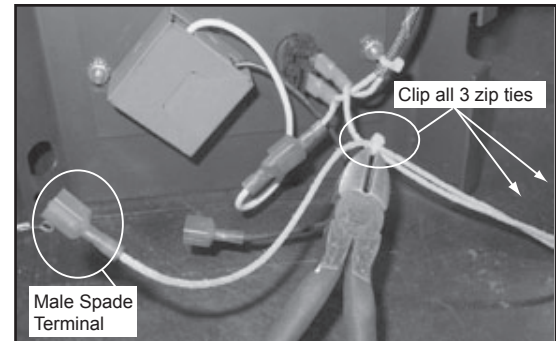

Figure 22.2
4. Identify the wire with the male spade terminal (this was originally connected to the white (neutral) lead on the power cord) and carefully clip the three small zip ties that connect it to the rest of the harness (**Figure 22.2**).